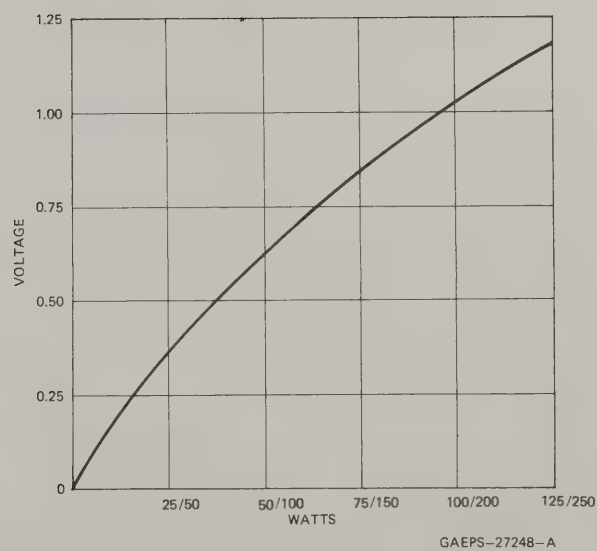

Figure 3. Wattmeter Element Voltage-vs-Power Curve
Step 2. Key the station. RF power from final power amplifier passes through the wattmeter element to a wattmeter and a 50-ohm load. Verify the FWD-to-REF voltage (forward power) and the REV-to-REF voltage (reverse power) conform to those shown in Figure 3.
The TTN6067A, 68A, 69A, & 70A Directional Coupler Kits are checked at 50 W input (50/100 W line on Figure 3). The TTN6071A, 72A, & 73A Directional Coupler Kits are checked at 100 W input (50/100 W line on Figure 3).